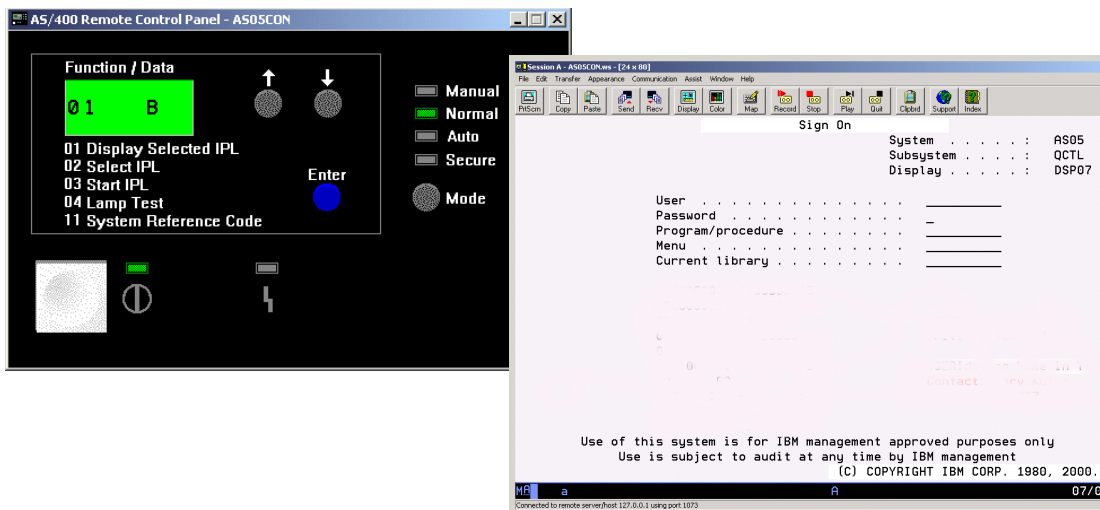

Figure 7-31 AS/400 Remote Control Panel and 5250 console screens
12. The AS/400 Remote Control Panel screen and a 5250 console window should start (Figure 7-31). If the LAN console connection fails to start, refer to 9.3, “Logical partition troubleshooting advisor” on page 220.